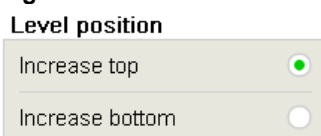

Figure 161
- **Level position:** Change of the level control to swap the placement of these buttons (Figure 161). Choose between: